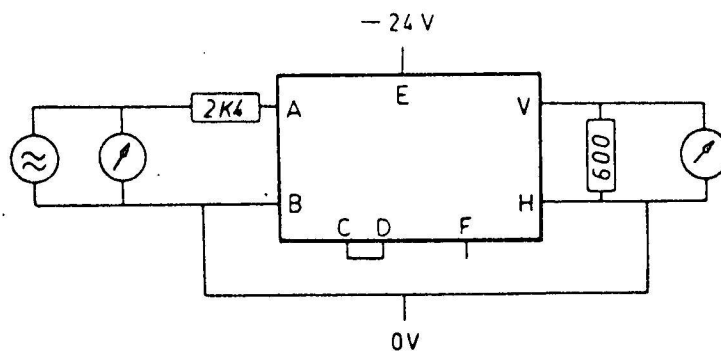

Fig. 31
- . Connect the printed circuit board of the amplifier as shown in Fig. 31 (page 5). Set the signal generator to 44 mV (-25 dB).